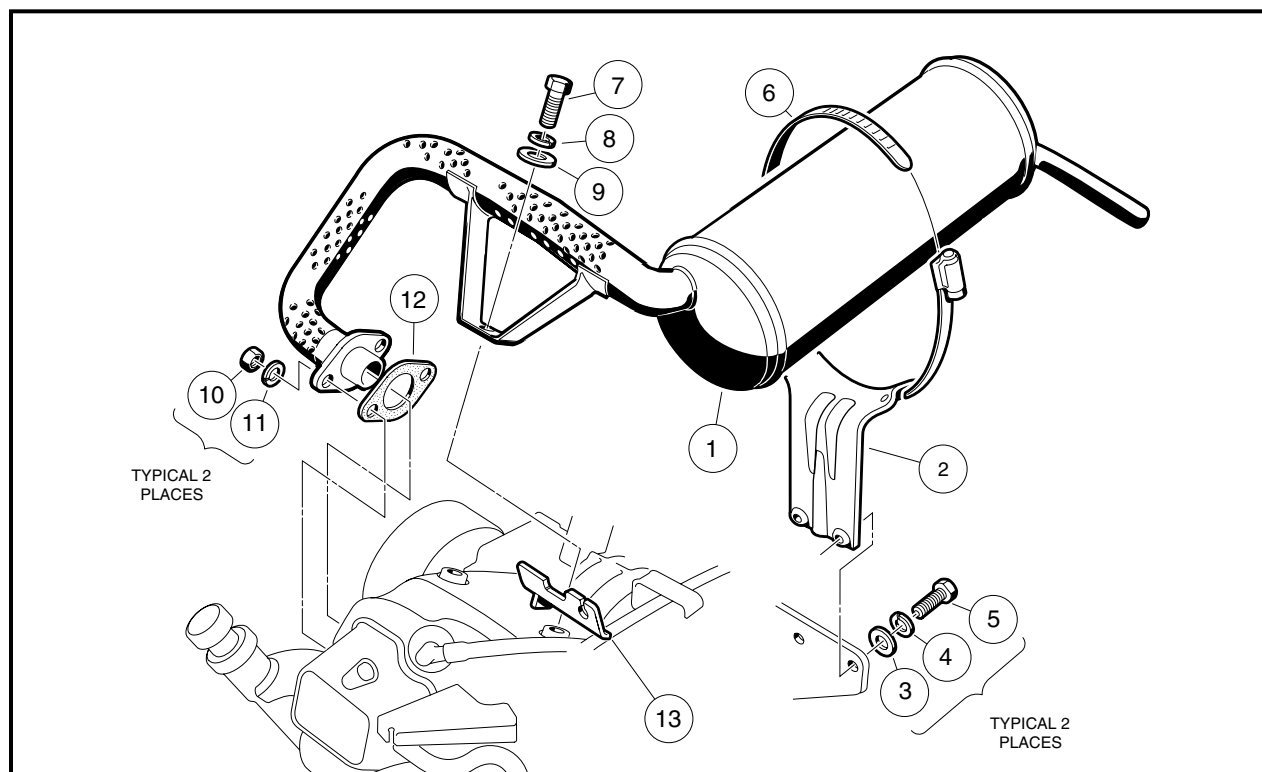

Figure 2-2 Exhaust System
- 6.1. Remove the muffler clamp (6) from the muffler (1) and clamp bracket (2) (**Figure 2-2, Page 2-6**).